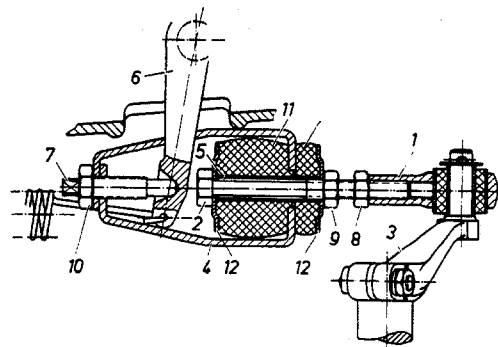

Fig. Ku 5a/3
Check whether the rubber bumpers (11 and 13) are sufficiently compressed, so that the cup washers (12) abut against the spacer sleeve (5). On the other hand, the spacer sleeve must not be deformed by tightening the check nut (9) excessively (see Fig. Ku 5a/3).
2. Loosen check nut of adjusting screw (7) at clutch linkage. Turn adjusting screw in or out until free travel of clutch pedal is 25 mm (1"). (See Fig. Ku 5a/01).
**Note:** After the check nut has been tightened, at least one or two threads of the adjusting screw (7) must be visible. If this is not the case, the length of the clutch linkage must be corrected by turning pull rod (2) into pull rod head (1). See Fig. Ku 5a/3.